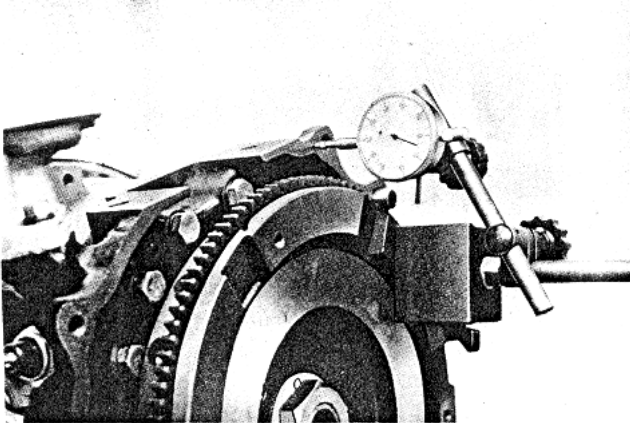

Fig. 1-85 Checking end play
11. Apply a dial indicator onto the flywheel as shown in Fig. 1-85. Move the flywheel fore and aft, and note the reading of the indicator. The standard end play is **0.04 ~ 0.07 mm (0.0016 ~ 0.0028 in)**.